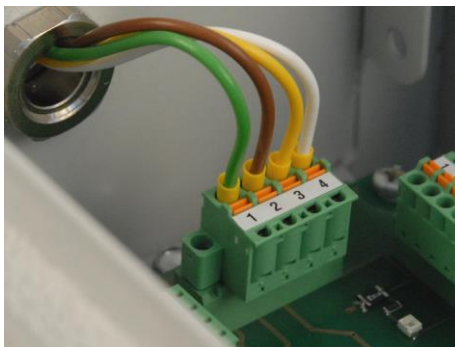

Fig. 52: Connecting the bus cable
2. Connect the conductors of the bus cable according to Fig. 52. For details refer to the respective terminal diagrams.